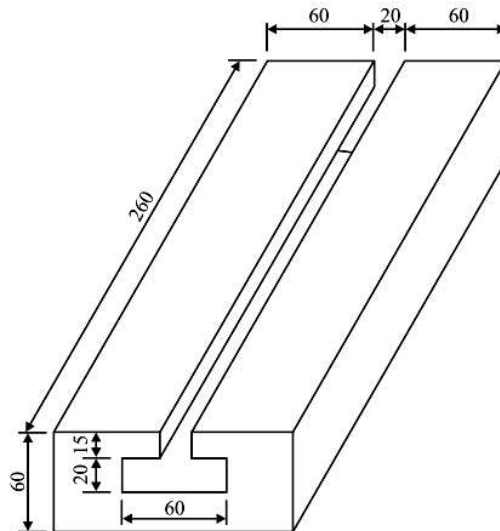

Fig. 5.27
36. a) A T-slot is to be cut in a C.I. slab as shown in Fig. 5.27. Estimate the machining time. Take cutting speed 25 m/min, feed is 0.25 mm/rev. Diameter of cutter for channel milling is 80 mm. 10 K2 CO6